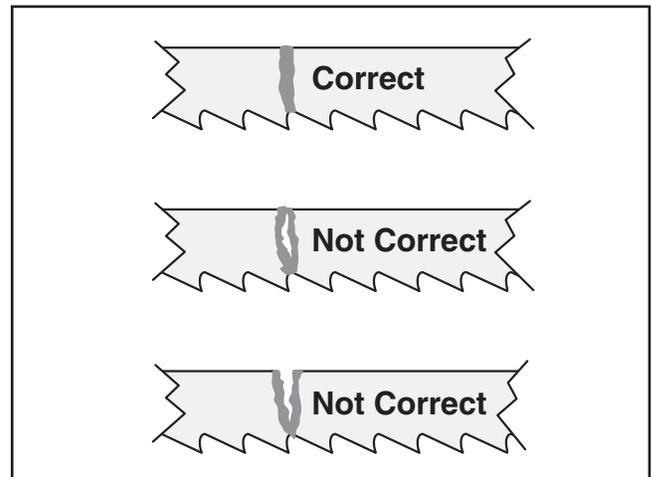

Figure 47. Blade welding joint examples.
- Inspect the weld. The welded joint should be even across the width of the blade with no gaps (see **Figure 47**).